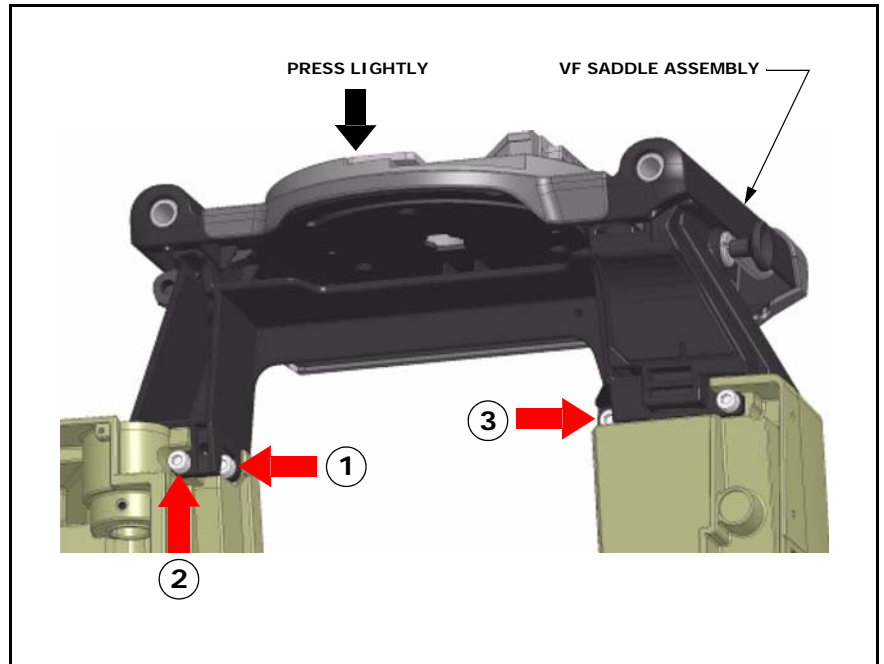

Figure 6
1. Loosen the three 5×12 bolts. (See Figure 6.)